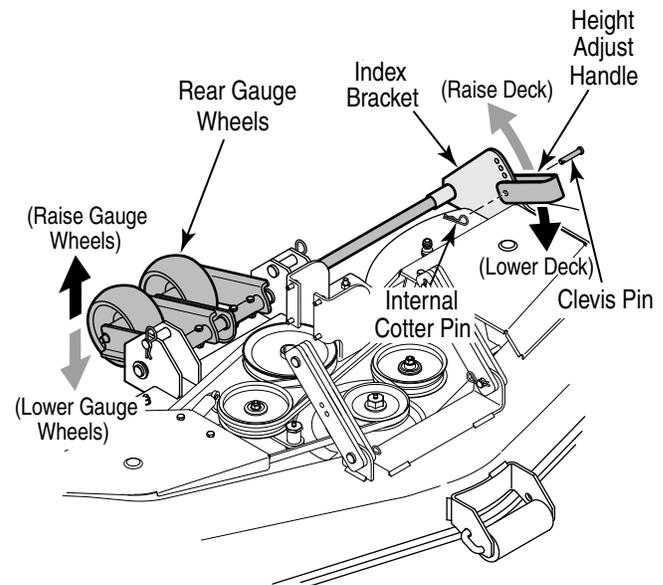

Figure 18
- Grasp the height adjust handle and withdraw the clevis pin. See Figure 18.
- Move the height adjust handle to the hole in the index bracket that corresponds to the index hole used to adjust the front caster wheels (the lower index bracket holes correspond to the lower caster wheel shaft holes - higher index bracket holes to higher caster wheel shaft holes). See Figure 18.
- Align the height adjust handle hole with the appropriate index bracket hole and re-insert the clevis pin through the handle and index bracket. Secure with the internal cotter pin. Refer to Figure 18.